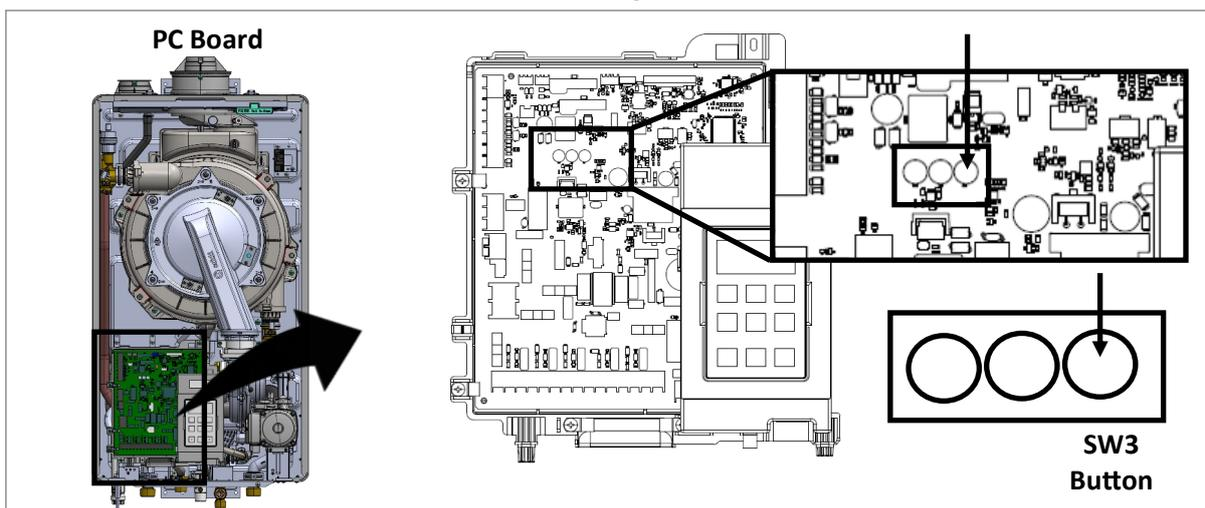
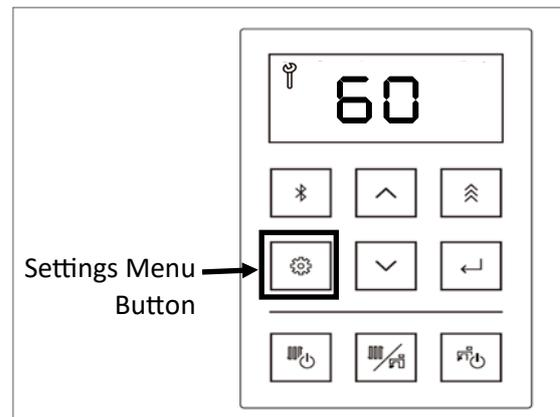

Figure 152
Figure 154
11. Press the SW3 button on the PC Board (Figure 152).
16. Display shows "60" (Figure 154) which indicates the remaining flush time in minutes. The number decreases by 1 every minute. For some reasons, flushing needs to be paused, stop the pump. The number on the display does not decrease while the unit does not detect water flow. When the pump resumes operation, the remaining flush time resumes decreasing as well.
**Note:** If you need to cancel this procedure, you may press the Settings Menu button on the controller (Figure 154), or press the SW3 button on the PC Board (Figure 152).